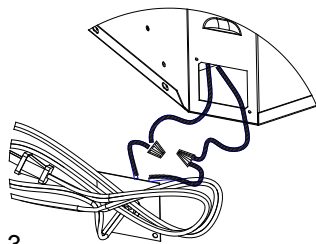

FIGURE 3
4. Take the cables out from the junction box, loosen the two wire twist nuts and remove the cord set. (FIGURE 3)